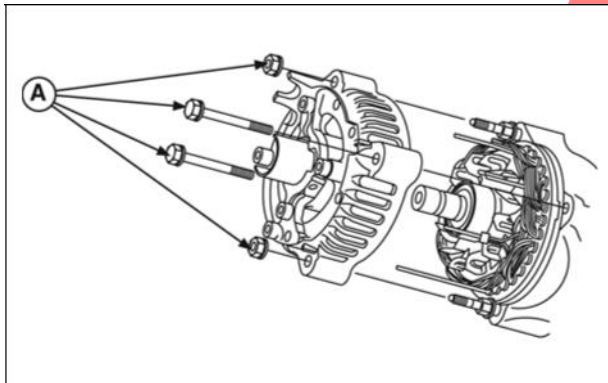

Figure 25
11. Remove rotor from drive end housing (Figure 25).